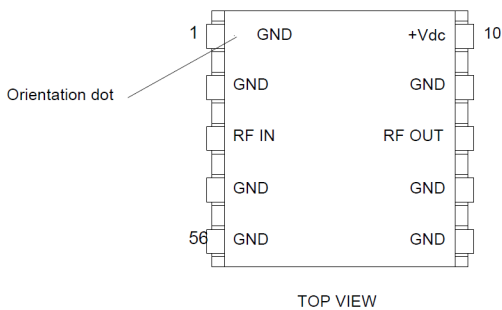

Figure 4: Typical Pin Designations for LCA Package
**FIG. 4 shows the standard pin designations for all LCA amplifiers.**